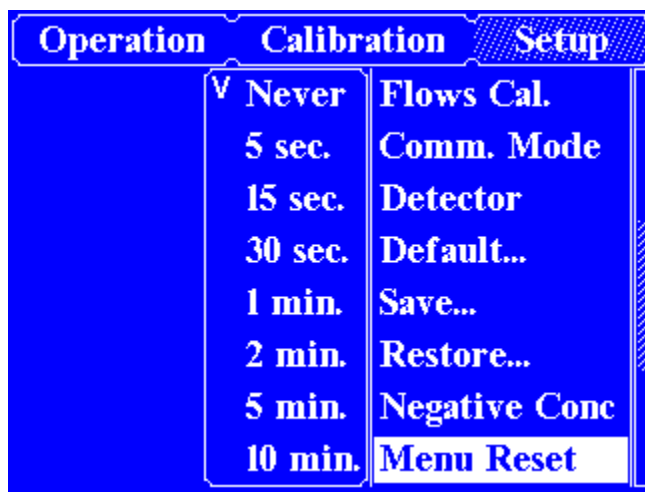

Figure 5-18. Menu Reset Screen
2. Use ← key to high-light an item and press Enter to select it. See figure 5-18.